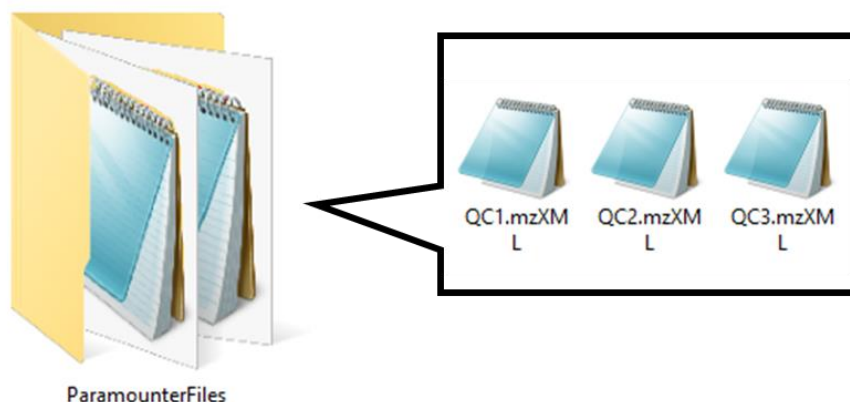

Figure 1. The file organization used for Paramounter.
- 1) Create a folder to store the files used for parameter optimization (**Figure 1**). Use 3-4 sample or QC LC-MS data files from the beginning, middle, and end of the sample analysis. For using mzML files, please change line 20 in the Paramounter R code part 1 and line 26 in part 2 to “filename <- list.files(pattern = “.mzML”)”.